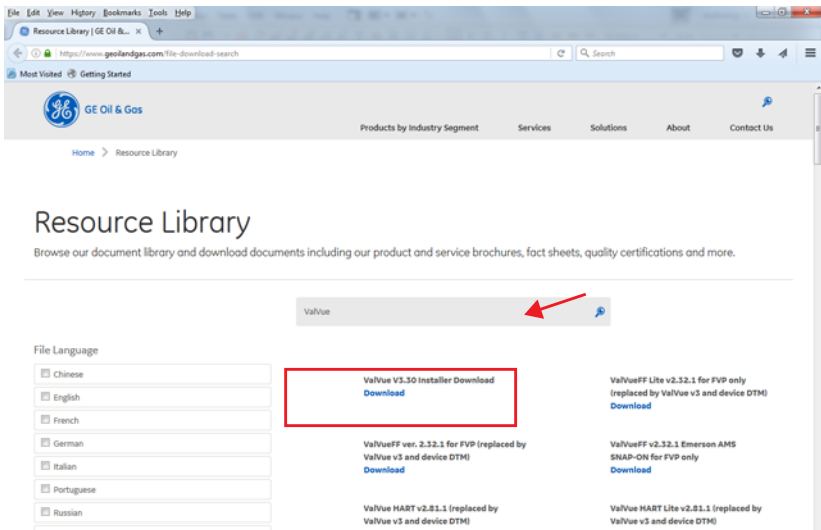

Figure 9 Download Center: Search for ValVue
1. Go to the *Resource Library* (<https://www.geoilandgas.com/file-download-search>) and enter *ValVue* in the search field (arrow in Figure 9).
The results appear (red box in Figure 9).